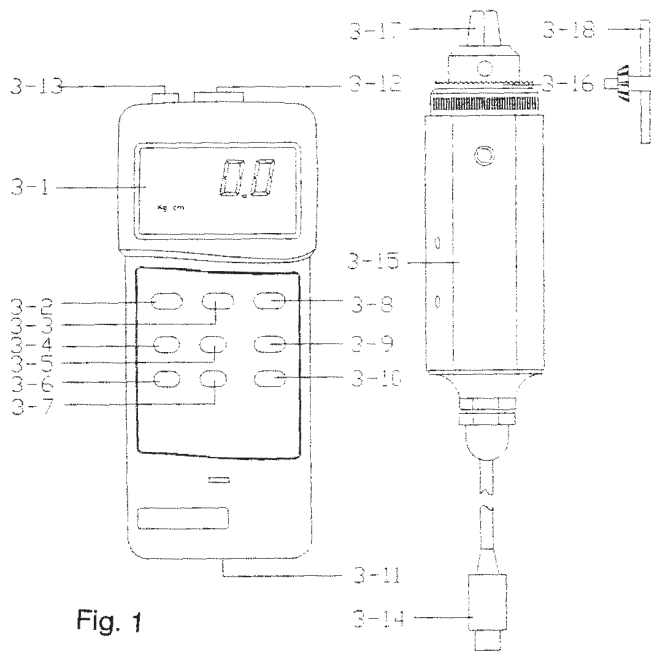

Fig. 1
- 1) Plug in the " Sensor Cable Plug " ( 3-14, Fig. 1 ) to meter's " Sensor Input Socket " ( 3-12, Fig. 1 ).
- 2) Power on the meter by push the " Power Button " ( 3-2, Fig. 1 ).
- 3) Push the " Sensor Type Button " ( 3-8, Fig 1 ) to check if the meter's sensor type is same as the external torque sensor.
Push the " Unit Button " ( 3-5, Fig. 1 ) to select the unit Kg-cm, LBf-inch or N-cm ( Newton-cm ).
Push the " Resolution Button " ( 3-7, Fig. 1 ) to select the High resolution or Low resolution.
The " Fast/Slow Button " ( 3-10, Fig. 1 ) is used to select the fast sampling time or slow sampling time.
7) To connect the " Cramp " ( 3-17, Fig. 1 ) to the measured installation and use the " Opinion " ( 3-18, Fig. 1 ) to lock the " Gear " ( 3-16, Fig. 1 ). Ref. Fig. 2 & Fig. 3.
Before the measurement, if the meter not show zero value, it can push the " Zero Button " ( 3-9, Fig. 1 ) to tare the display value, the LCD will change to zero value.
During the measurement, push the " Peak Button " ( 3-6, Fig. 1 ), the LCD will show the " PEAK " indicator & the display will hold the peak value.
During the measurement, pushing the " Hold Button " ( 3-3, Fig. 1 ) will freeze the measured value & display will indicate " HOLD " symbol. Push the " Hold Button " again to release the data hold function.
\* The DATA RECORD function displays the maximum and minimum readings. To start the DATA RECORD function, press the " Max./Min. Button " ( 3-4, Fig. 1 ) once. " REC " symbol will appear on the LCD display.
(a) Push the " Max./Min. Button " ( 3-4, Fig. 1 ) once, the " Max " symbol along with the maximum value will appear on the display.
**To disable this feature, Select the memory record function during measurement, by pressing the " Max./Min. " button ( 3-4, Fig. 1 ).**
The instrument features an RS232 output via 3.5 mm Terminal ( 3-13, Fig. 1 ).
- 2) Slide the Battery Cover ( 3-11, Fig. 1 ) away from the instrument and remove the battery.